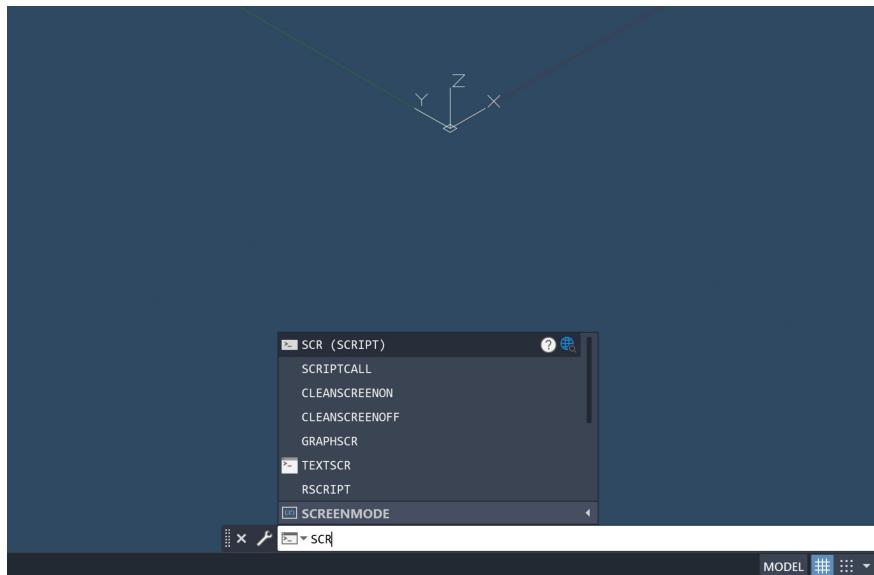

Figure 16: Executing Script Command in AutoCAD Command Line
2. In the command line type **SCR** and hit enter as shown in Figure 16